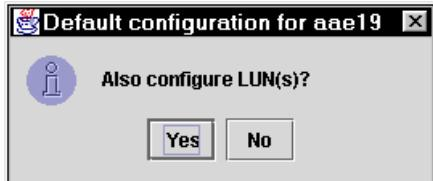

Figure 4-5 FASTT MSJ Automatic LUN configuration
- The configuration of the host adapters is corrected automatically, so that the first adapter is set to *visible* and the second to *hidden* for the operating system for all attached subsystems. It is also possible to configure the LUNs automatically (Figure 4-5). This leads to a configuration where all LUNs are enabled and the first adapter is used as the preferred path.
If you chose to automatically configure your LUNs (Figure 4-5), all LUNs use the first adapter as the preferred path; the other adapter is failover only.